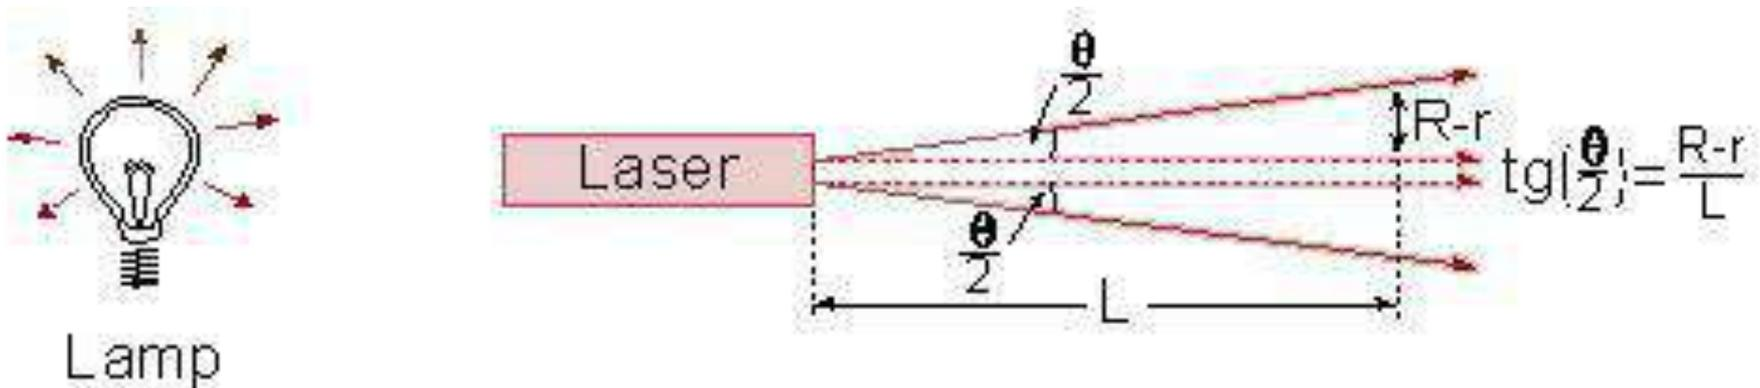

Fig.1.8: comparison between the light out of a laser, and the light out of an incandescent lamp
- Radiation comes out of the laser in a certain direction, and spreads at a defined **divergence angle (θ)** (see fig. 1.8, and example 1.2). **This angular spreading of a laser beam is very small compared to other sources of electromagnetic radiation, and described by a small divergence angle (of the order of milli-radians).**
In figure 1.8, a **comparison** is made between the radiation out of a laser, and the radiation out of a standard lamp.
Looking at figure 1.8, it is clear that **from a laser it is possible to achieve higher power density than from conventional sources** (see example 1.2).